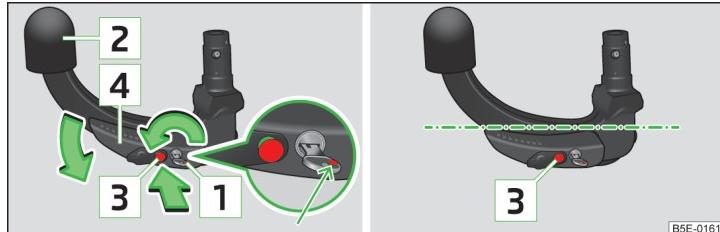

Fig. 119 Setting the ready position/ready position
- Turn the key so that its red mark 1 » Fig. 119 is visible.